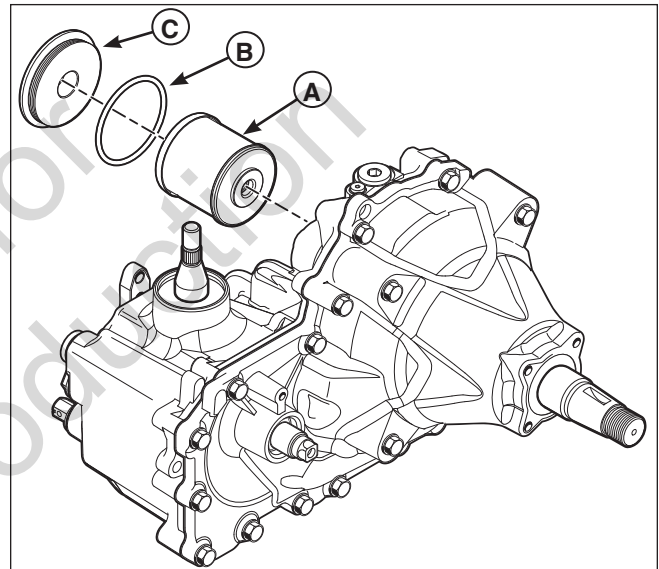

Figure 20. Integrated Transmission
1. Locate the hydraulic oil filter (A, Figure 20) on the side of the transaxle.
2. Remove the filter cover (C) and o-ring (B).